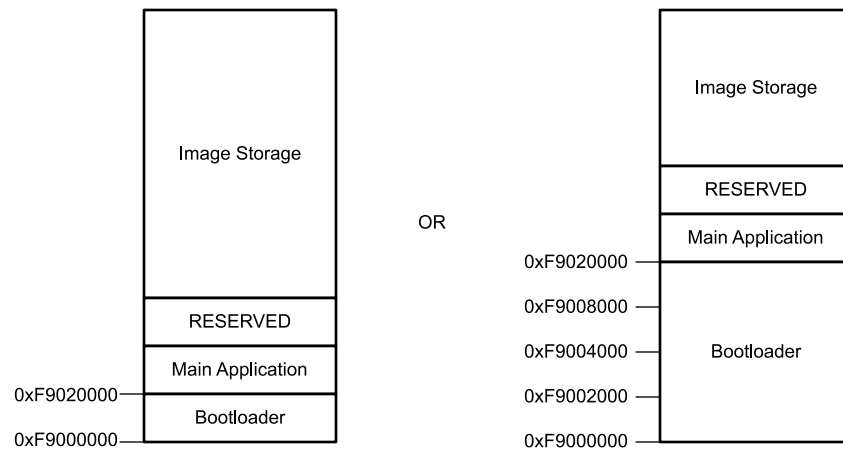

Figure 8-2. Boot Flash Memory Layout
All applications require both the controller and DMD components for reliable operation. The system uses an external parallel flash memory device loaded with the DLPC900 configuration and support firmware. The external boot flash must contain a minimum of 2 sectors, where the first sector starts at address 0xF9000000 which is the power-up reset start address. The first 128-kilobytes is reserved for the bootloader image and must be in its own sector and can be made up of several smaller contiguous sectors that add up to 128-kilobytes as shown in Figure 8-2. The remaining sectors contains the rest of the firmware. The default wait-states is set for a flash device of 120-ns access time. For a faster flash access time, refer to the Section 8.2.1.2.1.4.2 on how to program new wait-state values.
- PM_CSZ_1 – dedicated CS for boot flash device (≤ 16 -megabytes). Refer to the Figure 8-2 for the memory layout of the boot flash.